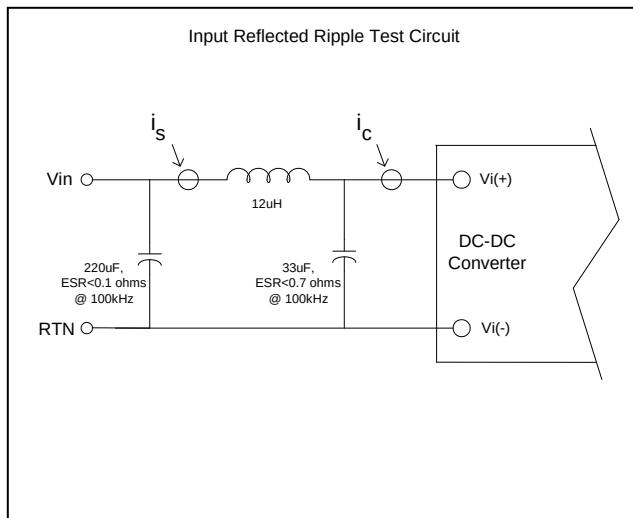

Figure 7 Test circuit used for input ripple current measurement
- (1)  $V_{in}$  = 48Vdc,  $T_a$  = 25 °C, Airflow = 200 LFM unless otherwise noted.
- (2) Input Reflected Ripple Current is specified when measured with the filter shown in Figure 7.
- (3) Output Ripple Voltage and noise is specified when measured with a 10uF tantalum and a 1uF ceramic capacitor at the converter output pins.
- (4) Transient response is specified without a capacitor at the output of the converter.
- (5) If remote sense is not required or used, the Sense(+) and Sense(-) pins must be connected to Vo(+) and Vo(-) respectively.
- (6) See 'Remote Sense' and 'Trim Feature' details regarding output voltage range limitations.
- (7) Thermal shutdown is monitored at the 'Thermal Measurement Location' (TML). See 'Mechanical Information' on page 4 for the thermal measurement location.
- (8) See 'Safety Considerations'.
- (9) De-rating curves are conducted in a controlled environment. End application testing is required to ensure the Thermal Measurement Location temperature is below the maximum specified.